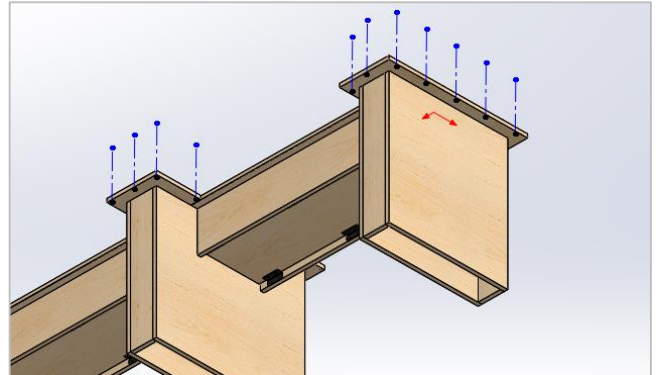

Figure 7
4. Attach work surface using 1.5" long screws provided. Screw through base top plate pilot holes. (Figure 7) For multi-piece tops, install tight joint hardware prior to final attachment to base.